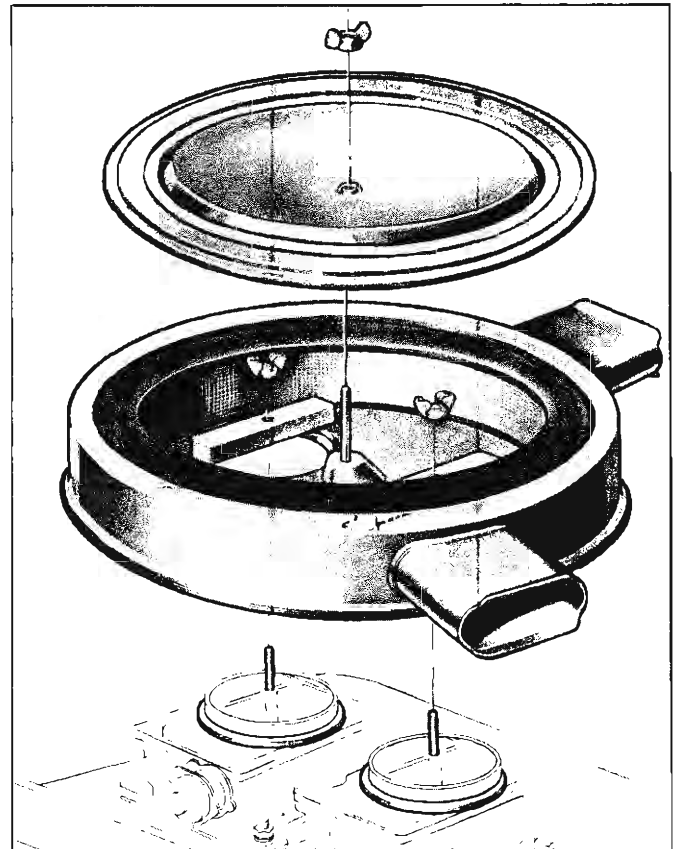

Fig. 33—RPO 587—Air Cleaners
2. Remove air cleaner (fig. 33) and both throttle pull-back springs.